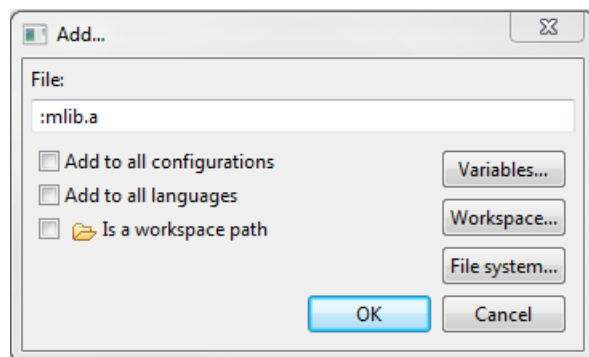

Figure 1-23. Library file inclusion
17. Type the following into the File text box (see Figure 1-23): :mllib.a